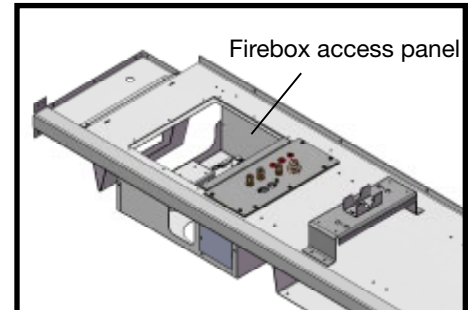
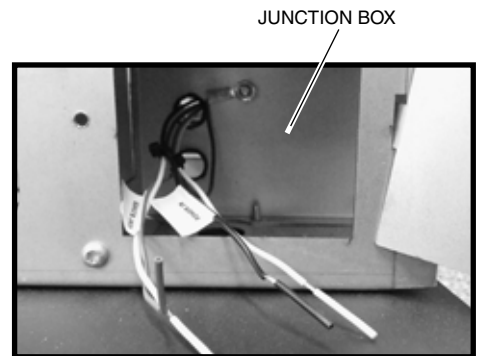
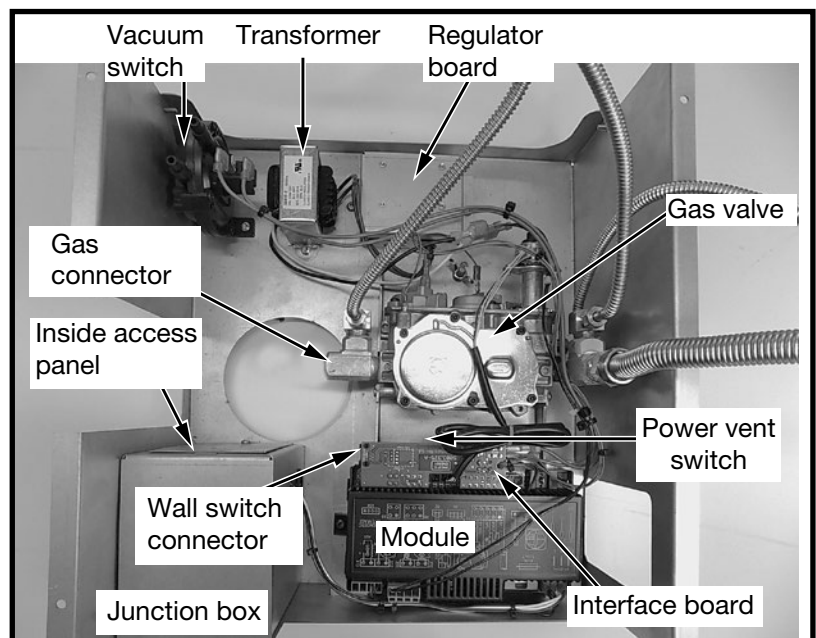
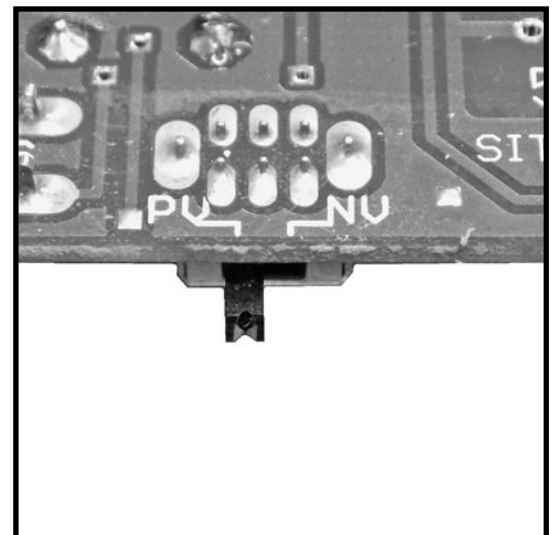

Figure 27: Firebox access panel.
Figure 28: Junction box wiring.
Figure 29: Valve assembly components.
Figure 33: Vent mode selection switch.
3. Remove access panel from bottom left hand side of the firebox (Figure 27).
4. Ensure that the switch on the IFC board is set to PV (Power Vent) (Figure 29).
5. Connect 110 V. AC electrical supply to the wires installed inside the junction box (Figure 27). The fireplace is rated at 110 volts, 60Hz, 0.25A. The optional power vent kit is rated at 115 volts, 60Hz, 1.8A. The electrical wires can be accessed from both inside and outside the junction box by removing one of the two small access panels (Figure 28 and Figure 29).
8. Attach one end of the wall switch control cable to the interface board (Figure 29), and the other end to the wall control (Figure 31).
The NV/PV (Natural Vent / Power Vent) switch (Figure 33) on the interface board (Figure 29) is set according to which type of evacuating vent system is present. In all cases with the TCWS54STOK fireplace, the NV/PV switch **MUST** be set to PV.
1. Connect the gas supply to the gas connector (Figure 29)